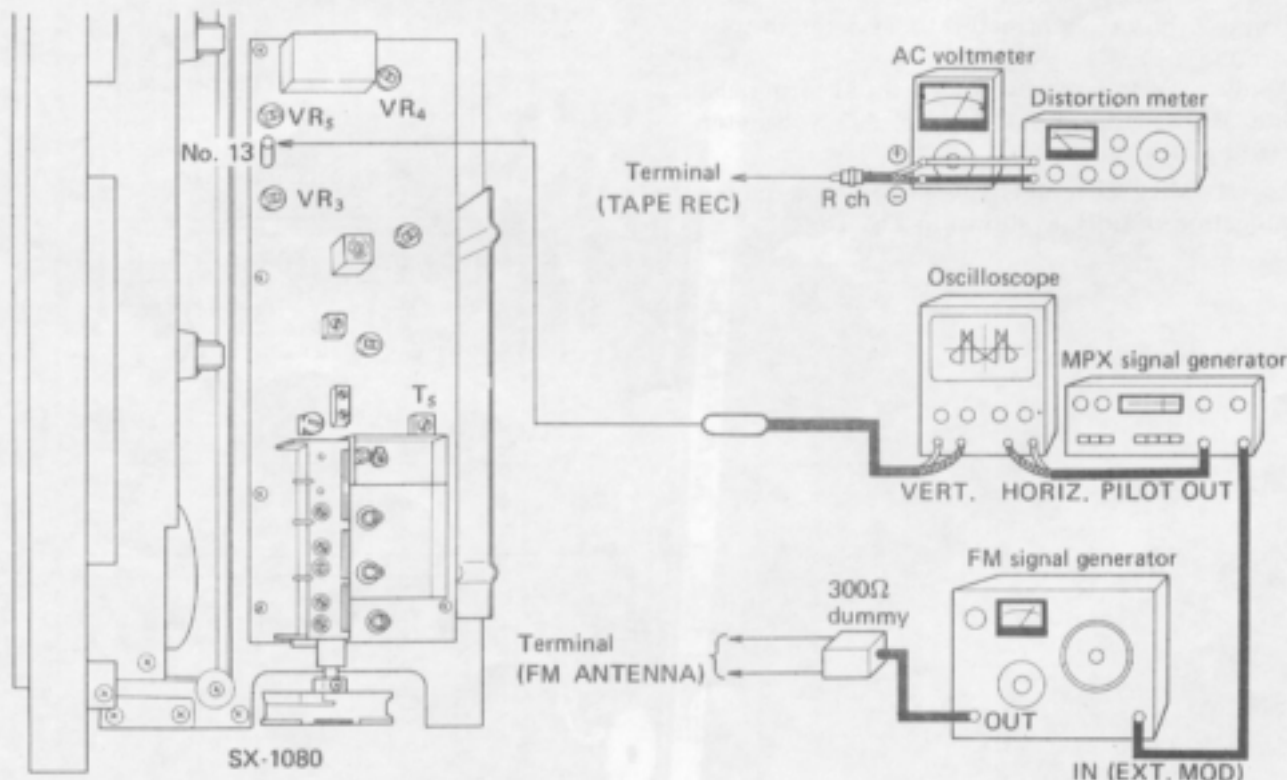

Fig. 12 Connection of FM MPX adjustment
- Connect as shown in Fig. 12, and set the FUNCTION switch to "FM" and the MUTING switch to "OFF".